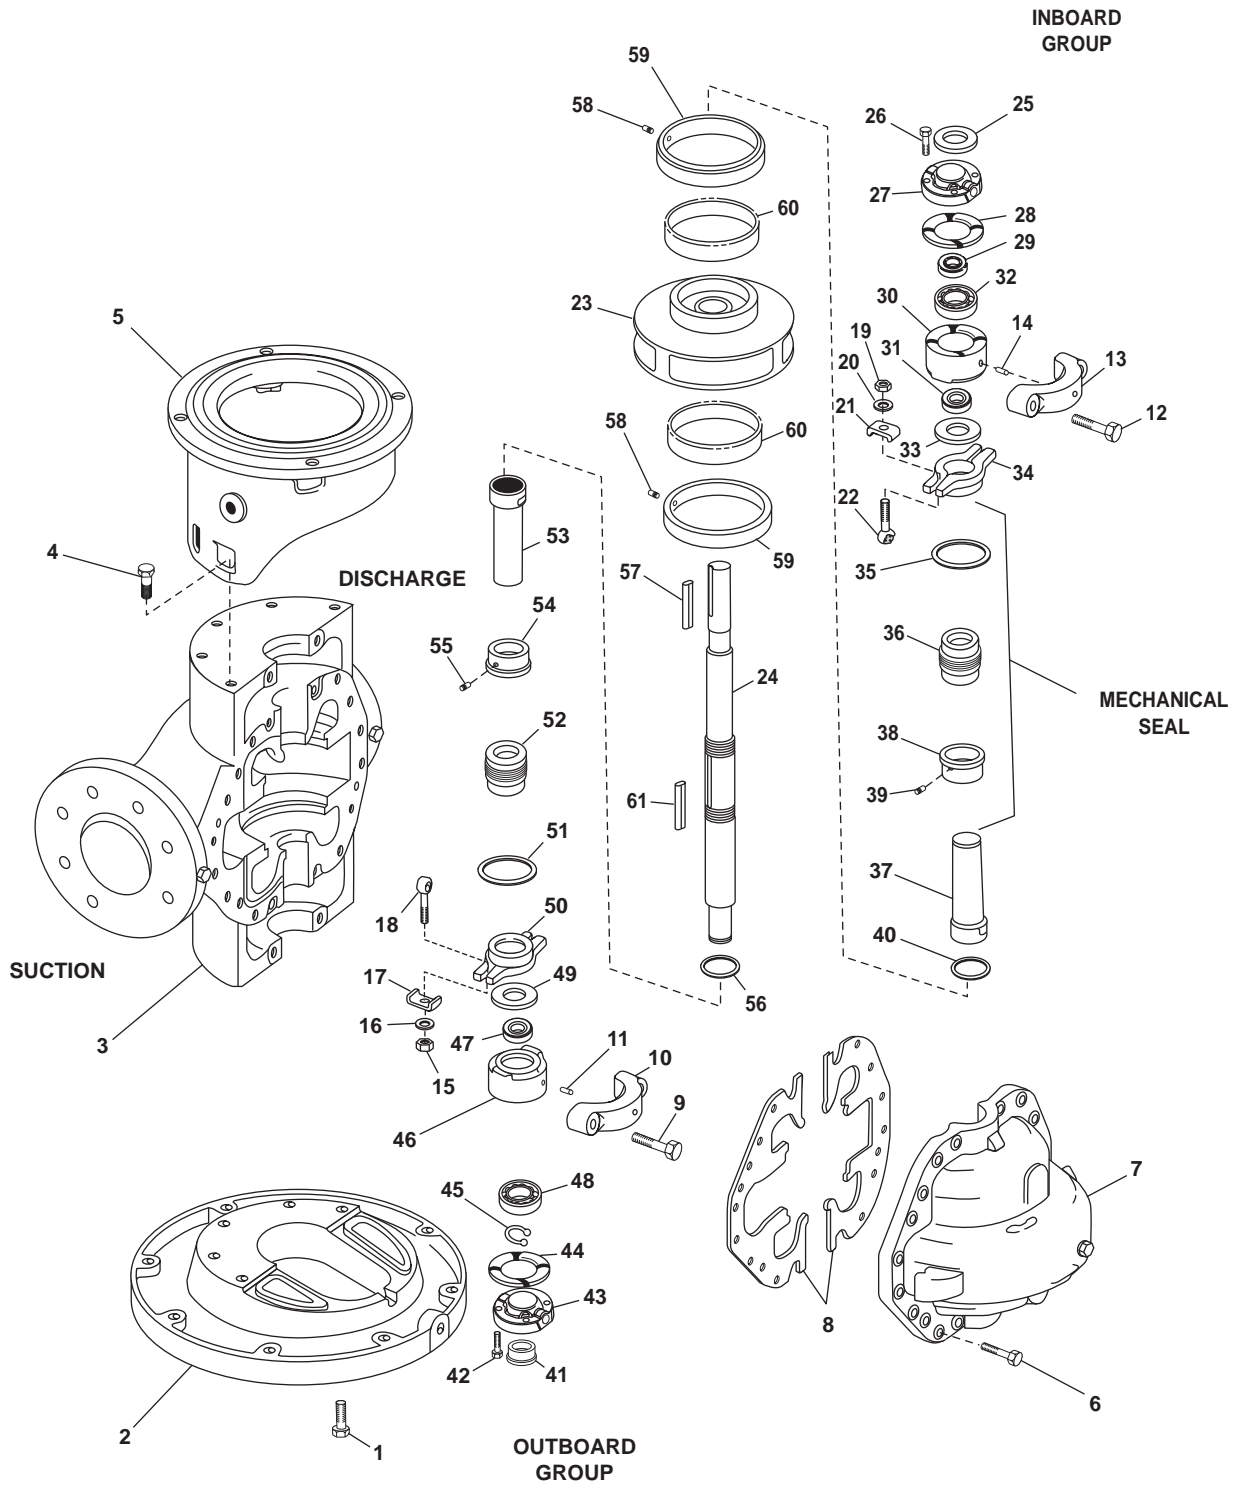

Figure 1. Fire and General Service Pump
1. Remove the bolts (figure 1, item 1) that secure the base (figure 1, item 2) to the pump body (figure 1, item 3).
2. Remove the bolts (figure 1, item 4) that secure the alignment bracket (figure 1, item 5) to the pump body (figure 1, item 3).
3. Remove the cap screws (figure 1, item 6), and remove the casing (figure 1, item 7) from the pump body (figure 1, item 3).
4. Remove and discard the gasket (figure 1, item 8).
5. Remove the two cap screws (figure 1, item 9), and remove the outboard bearing caps (figure 1, item 10) and pin (figure 1, item 11).
6. Remove the two cap screws (figure 1, item 12), and remove the inboard bearing cap (figure 1, item 13) and pin (figure 1, item 14).
7. Remove the nut (figure 1, item 15), washer (figure 1, item 16) and gland clamp (figure 1, item 17). Remove the swing bolt (figure 1, item 18) from the outboard group.
8. Remove the nut (figure 1, item 19), washer (figure 1, item 20), and gland clamp (figure 1, item 21), and remove the swing bolt (figure 1, item 22) from the inboard group.
9. Remove the impeller (figure 1, item 23) and shaft (figure 1, item 24) from the pump body (figure 1, item 3).
10. Remove the upper slinger (figure 1, item 25) from the end of the shaft (figure 1, item 24).
11. Remove the cap screws (figure 1, item 26), and remove the inboard cartridge cap (figure 1, item 27) from the shaft (figure 1, item 24).
12. Remove and discard the gasket (figure 1, item 28)
13. Remove and discard the grease seal (figure 1, item 29).
14. Using a mechanical gear and bearing puller, remove the inboard group bearing cartridge (figure 1, item 30), the grease seal (figure 1, item 31), and the bearing (figure 1, item 32) from the shaft (figure 1, item 24). Discard the grease seal.
15. Remove the slinger (figure 1, item 33) from the shaft (figure 1, item 24).
16. Remove the upper gland (figure 1, item 34) from the shaft (figure 1, item 24).
17. Remove and discard the O-ring (figure 1, item 35).
18. Remove the upper mechanical seal (figure 1, item 36) from the shaft (figure 1, item 24).
19. Mark the position of the upper sleeve (figure 1, item 37) on the shaft (figure 1, item 24) to ensure correct orientation of the upper seal collar (figure 1, item 38) during pump assembly.
20. Loosen the set screw (figure 1, item 39), and remove the upper seal collar (figure 1, item 38) and the upper sleeve (figure 1, item 37) from the shaft (figure 1, item 24).
21. Remove and discard the O-ring (figure 1, item 40).
22. Remove the lower race (figure 1, item 41) from the shaft (figure 1, item 24).
23. Remove the cap screw (figure 1, item 42), and remove the cartridge cap (figure 1, item 43) and the gasket (figure 1, item 44) from the shaft (figure 1, item 24).
24. Remove the retainer clip (figure 1, item 45). Using a mechanical gear and bearing puller, remove the outboard group bearing cartridge (figure 1, item 46), the grease seal (figure 1, item 47), and the bearing (figure 1, item 48) from the shaft (figure 1, item 24). Discard the retainer clip and the grease seal.
25. Remove the lower slinger (figure 1, item 49) from the shaft (figure 1, item 24).
26. Remove the lower gland (figure 1, item 50) from the shaft (figure 1, item 24).
27. Remove the O-ring (figure 1, item 51) from the lower gland (figure 1, item 50). Discard the O-ring.
28. Remove the lower mechanical seal (figure 1, item 52) from the shaft (figure 1, item 24).
29. Mark the position of the lower sleeve (figure 1, item 53) on the shaft (figure 1, item 24) to ensure correct orientation of the lower seal collar (figure 1, item 54) during pump assembly.